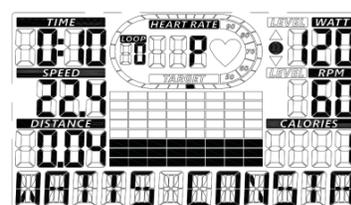

Fig. 27
- During the workout, watt window displays “●” to indicate the runner speed is within the standard range. (Fig. 27).